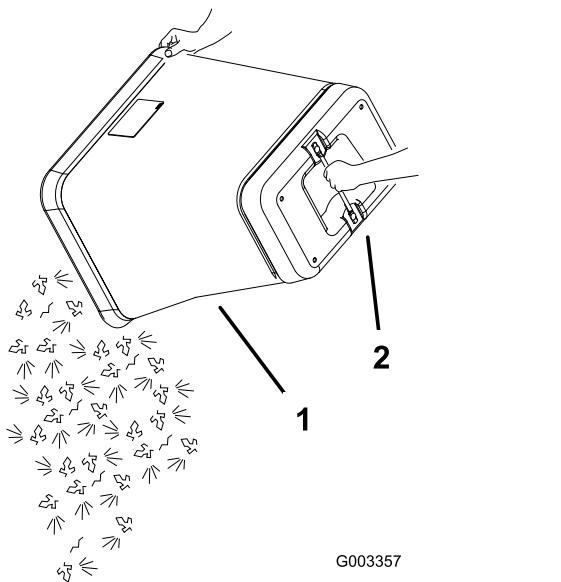

Figure 47
6. Grab the handle on the bottom of the bag and tip it over to empty the bag (Figure 47).